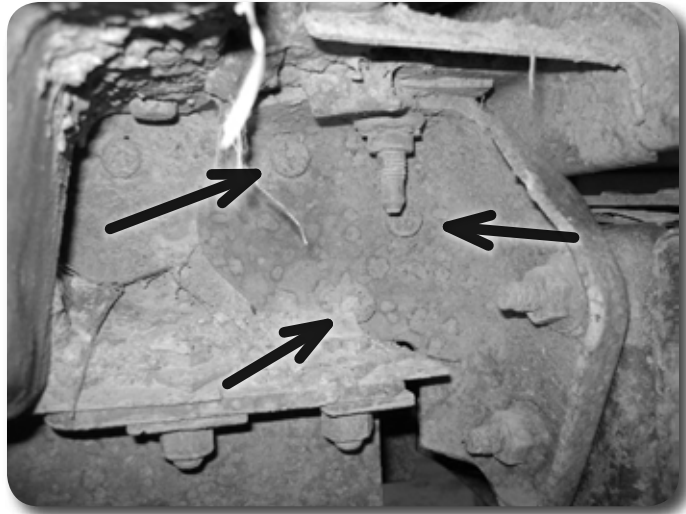

Figure 19
42. Locate the three rivets mounting the factory rear bumper brackets to the frame. **Figure 19**